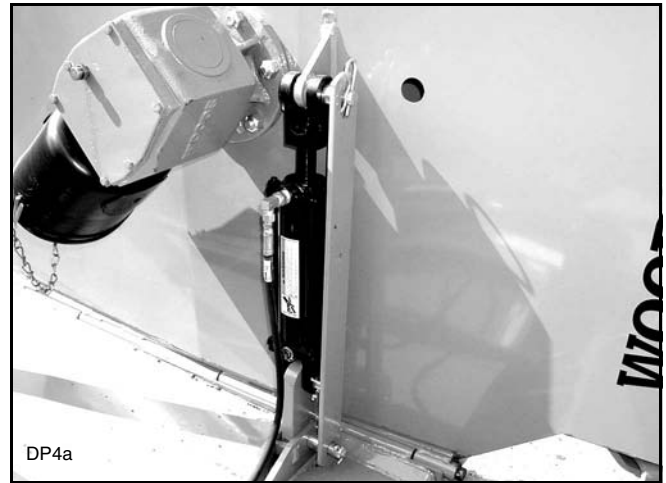

Figure 2. Transport Lock-Up Bar - Right Wing
5. Lower cylinder against lock-up bars (Figure 2).